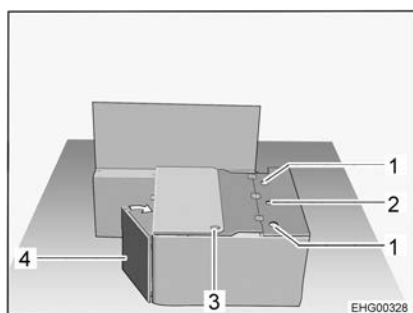

Fig. 40 During conversion
- Swing the bench seat panel (Fig. 40,4) towards the side wall.
- Route the safety belt with the seatbelt lock through the orifice (Fig. 40,3) in the bench seat cover.
- Insert the backrest of the attachable seat into the side holders (Fig. 40,1) and tighten the star knob screw on the centre holder (Fig. 40,2) by hand.